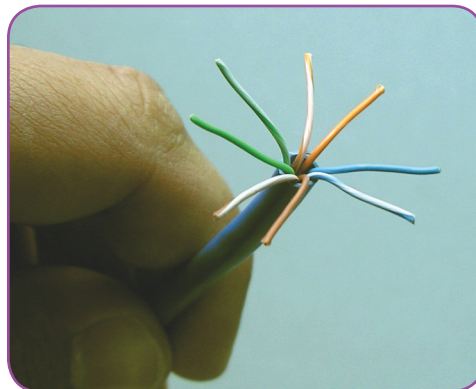

Figure D-3: Separating the Wires
3. Separate all eight wires and straighten them (see **Figure D-3**)